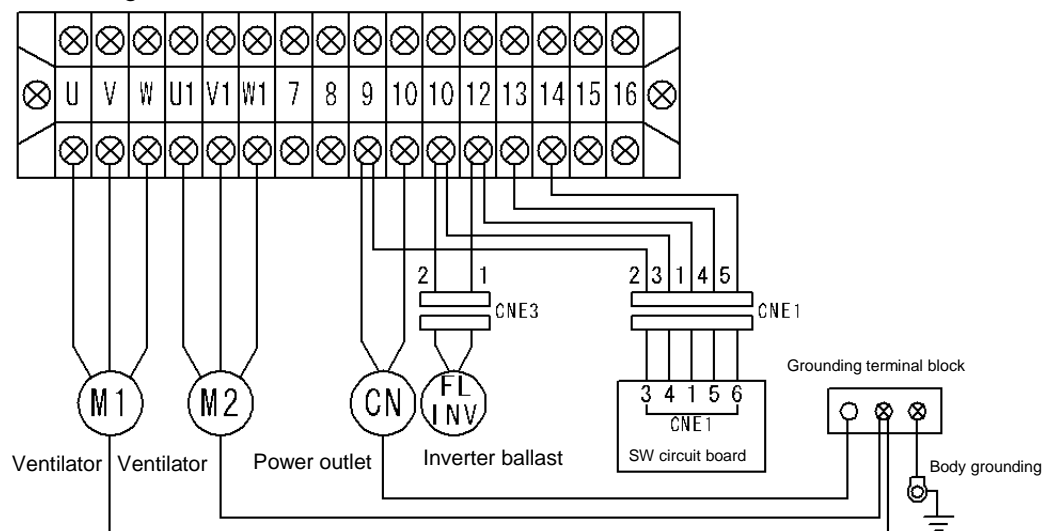

図 2-5
- ① Arrange the terminal block wiring for the exhaust blower in the power distribution panel as shown in Fig.2-5. The grounding wire must be connected to the grounding terminal block. For the power outlet and the inverter type ballast the wires go through the hole on the left side plate, on the other hand, the wires for SW circuit board go through the hole on the right side plate, into the frame for connection. The inverter type ballast and SW circuit board are connected through connectors.